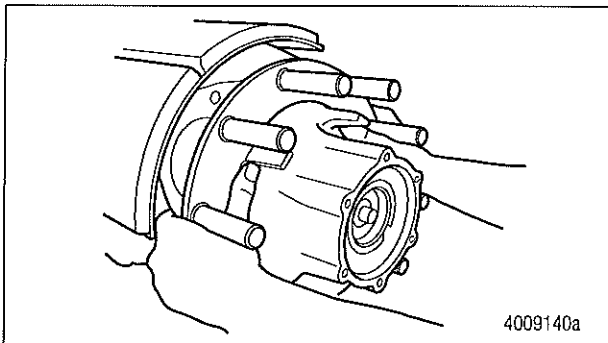
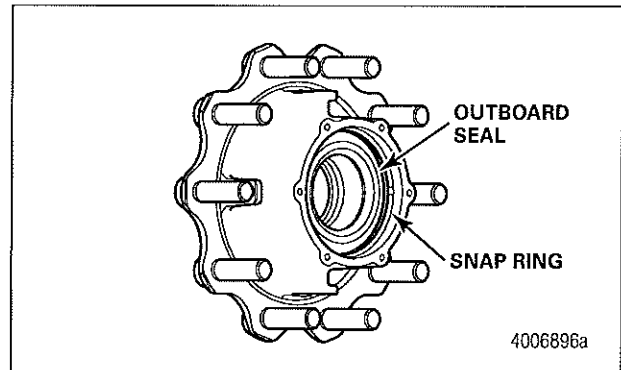

Figure 8
Figure 9
10. Pull the hub as straight as possible off the spindle to avoid dislodging the clip inside the hub bore. Do not try to remove the outer bearing. The bearings should be removed together with the hub. Discard the inner bearing O-ring, if present. Figure 8 and Figure 9.